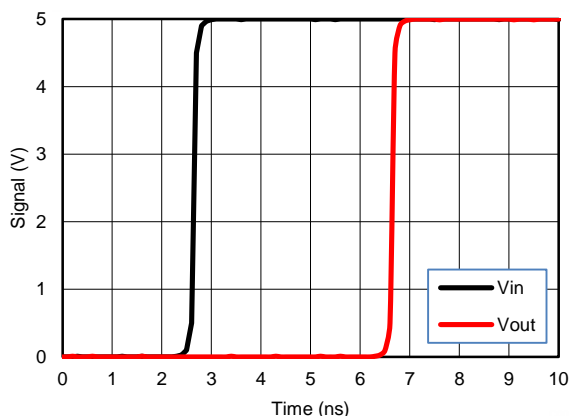

Figure 12. Simulated Input-to-Output Voltage Response Showing Propagation Delay at $V_{CC} = 5\text{ V}$
- Figure 12 illustrates the effects of frequency on output current.